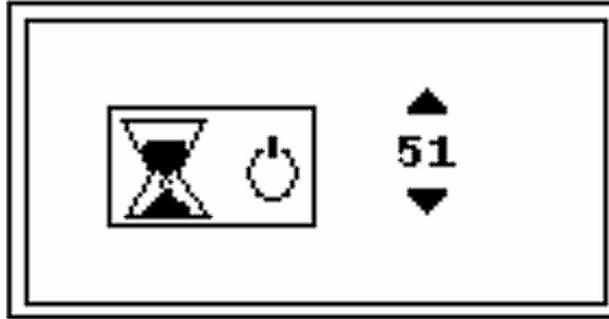

Figure 2-43 Sleep Timer Configuration Screen
6. Press **Enter** and the configuration screen appears (Figure 2-43).